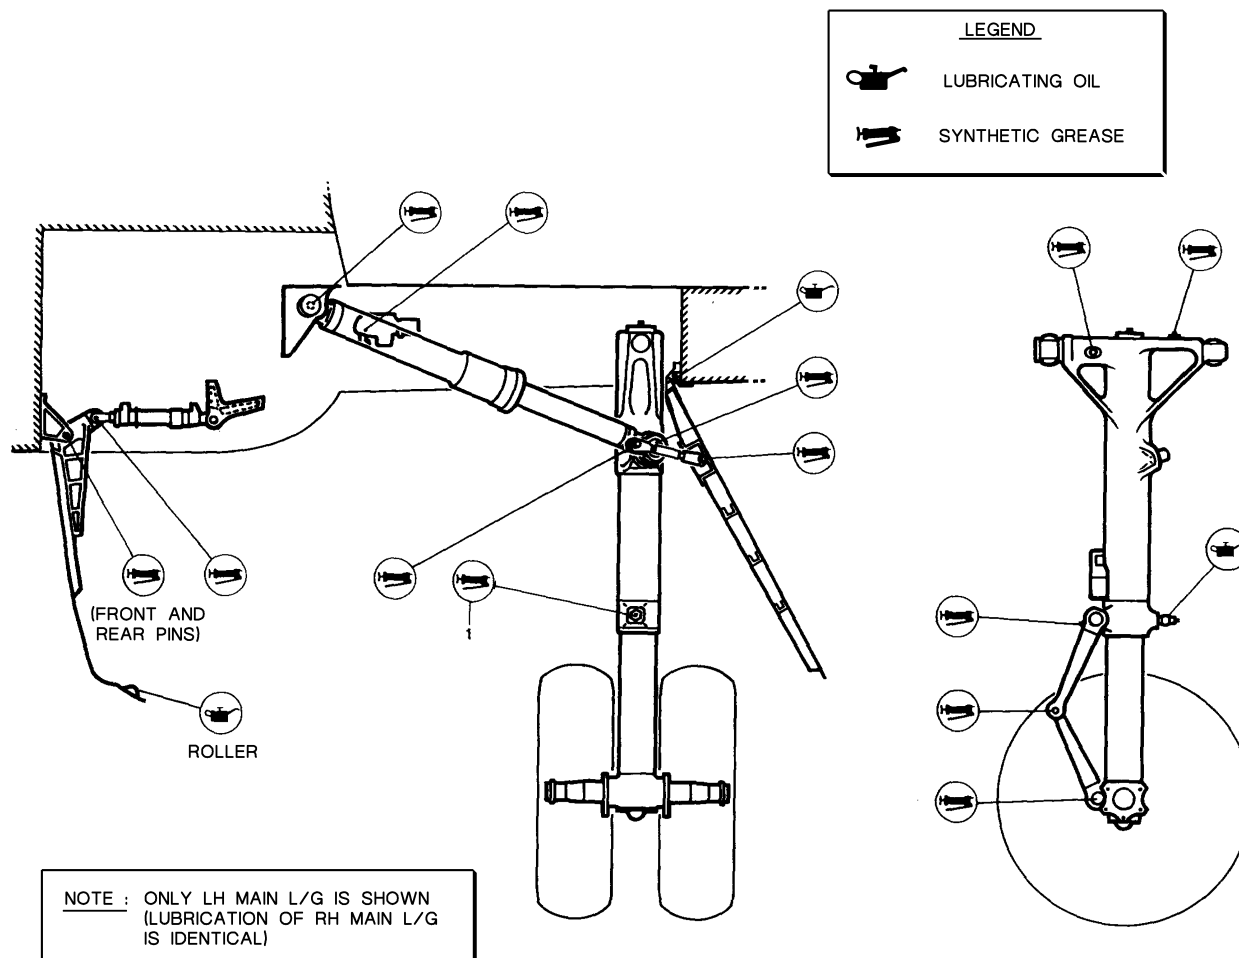

Figure 1: LUBRICATION OF MAIN L/G AND DOORS
Refer to **fig. 1**
- (2) If the A/C is on jacks:
- (3) Lubricate the L/G strut lower bearing ball joint nipple
- This nipple (1-fig. 1) provides grease to the shock absorber lower guiding ball joint.